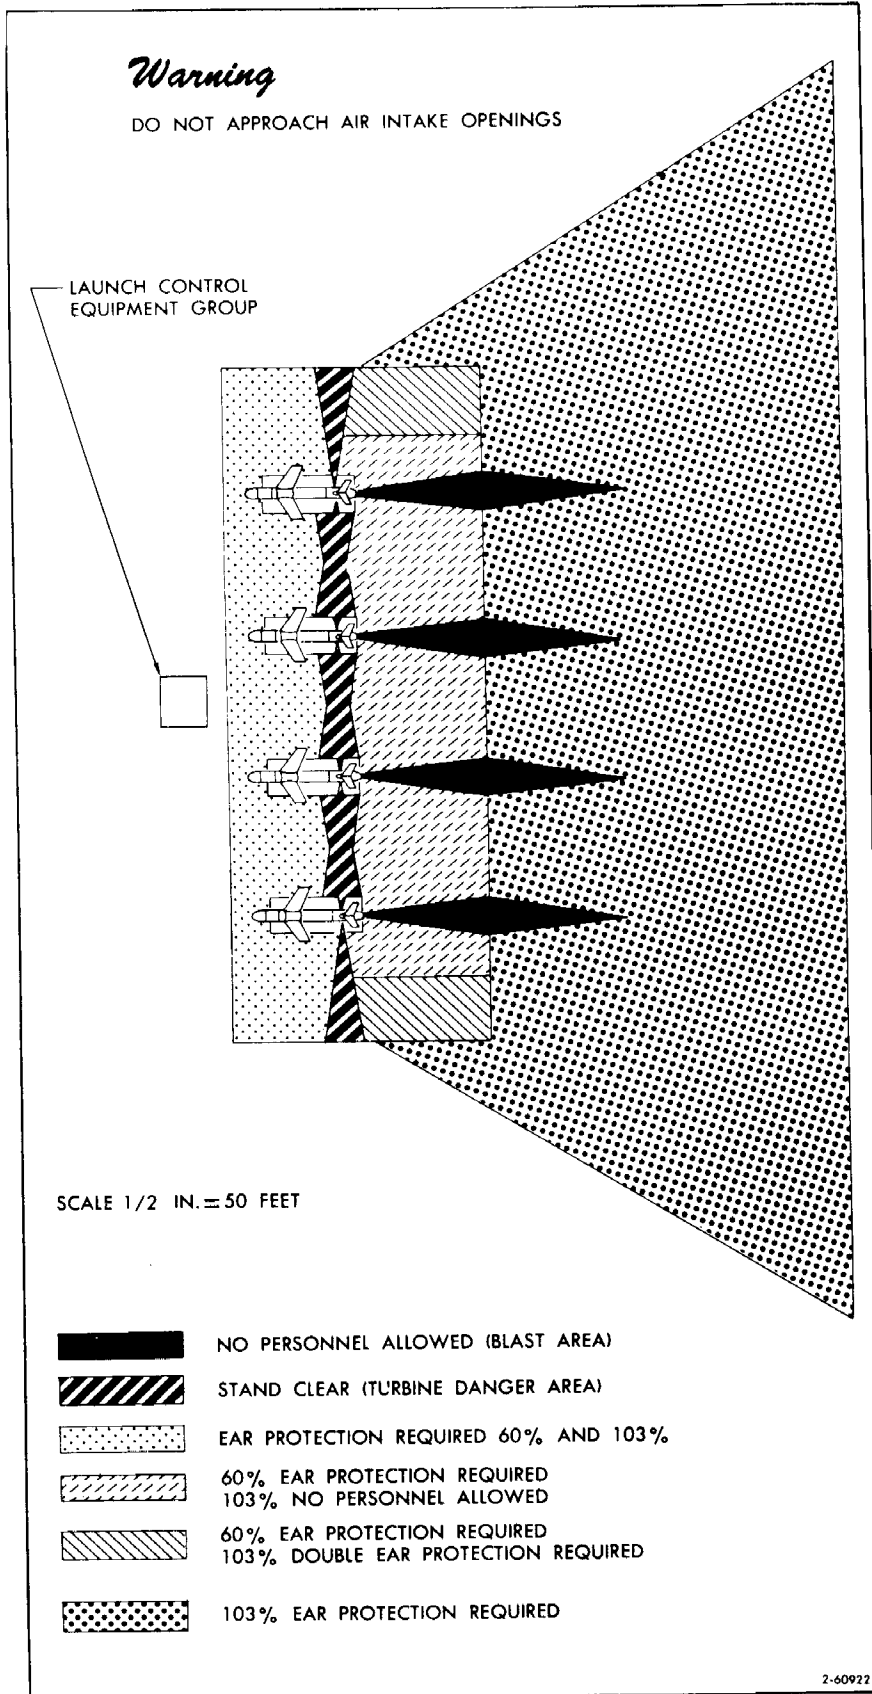

Figure 1-4. Engine Danger Area
- b. Observe Engine Danger Limits. (See figure 1-4.)